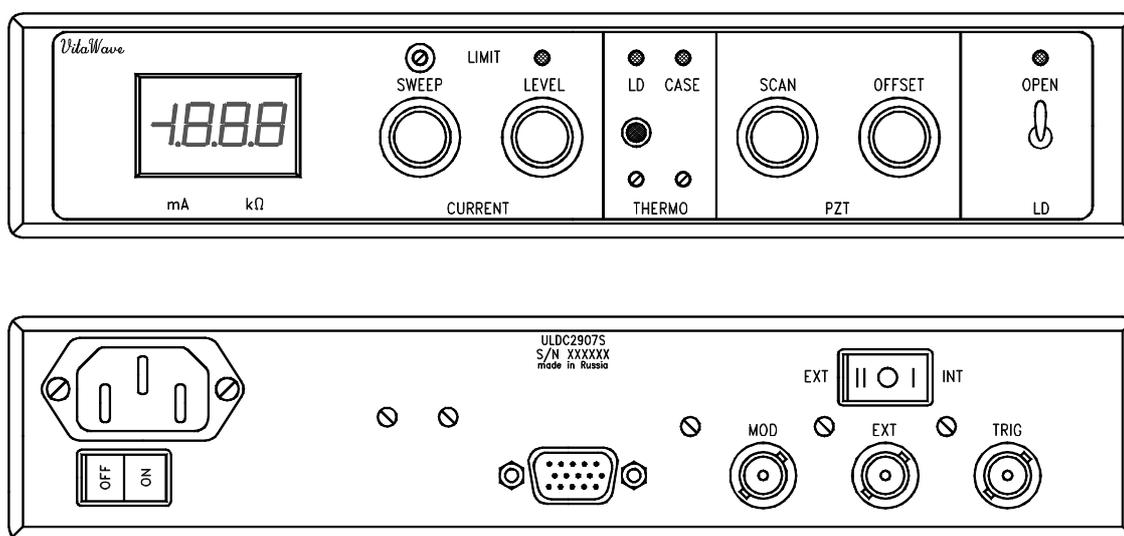

Fig.2. The front and rear panels of the electronic unit.
There are few functional zones on the front panel of the electronic unit reflecting operation of a current source (CURRENT), a temperature controller (THERMO), a high-voltage amplifier (PZT), and a laser diode shunt (LD) (Fig.2).